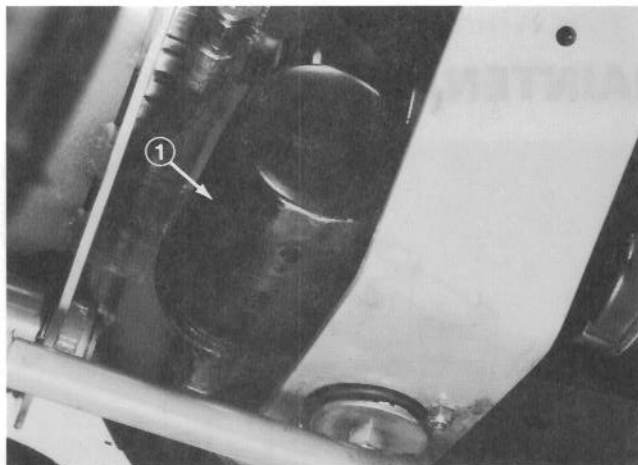

Figure 56
4. Remove oil drain plug and allow oil to flow into drain pan. Remove and replace oil filter (Fig. 56); refer to parts catalog for part number.